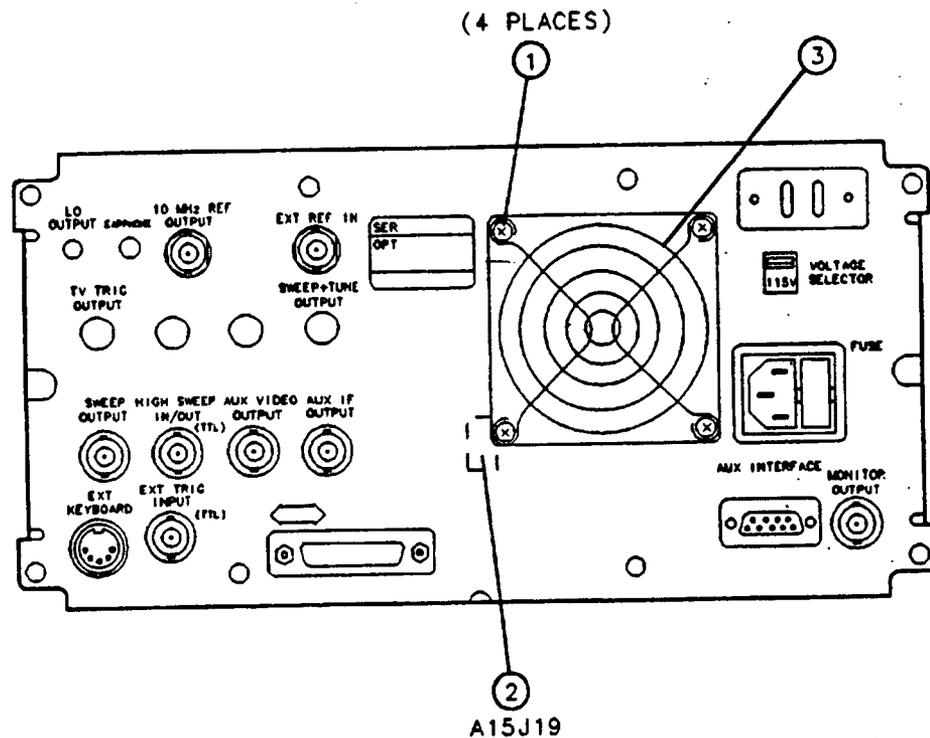

Figure 3-37. B1 Fan Replacement
3. Hold the B1 Fan assembly in position and loosen the four screws (1) that secure the fan assembly to the rear-frame assembly. See Figure 3-37.
4. Pull the fan 2 inches away from the instrument, reach into the opening in the rear frame, and disconnect the fan wiring from A15J19 (2).
5. Remove the four screws, washers, and spacers from the fan (1).
6. Remove the fan grill (3).
1. Position the fan grill on the B1 Fan (3). The fan label must be visible through the fan grill to make sure that the fan provides the correct airflow. See Figure 3-37.
2. Position the four spacers on the fan and replace the screws and washers (1).
3. Hold the fan 2 inches away from the instrument and connect the fan wiring to A15J19 (2).
4. Position the fan assembly on the instrument and tighten the four screws (1) that secure it to the rear frame.